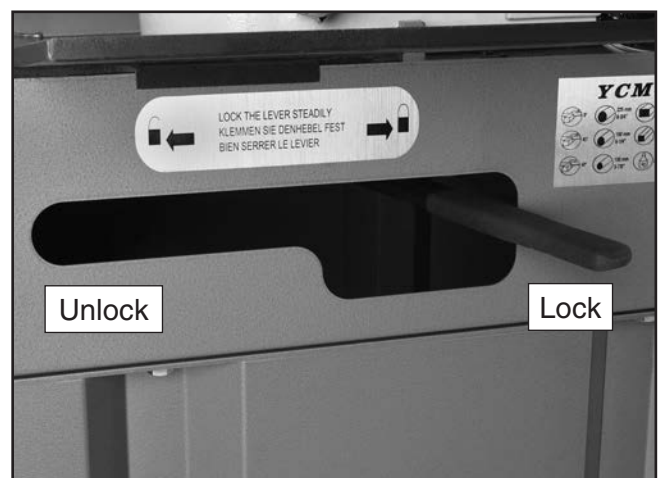

Figure 14. Swivel lock lever.
2. Move the swivel lock lever (**Figure 14**), to the left and rotate the headstock until the scale indicates the angle that you need.